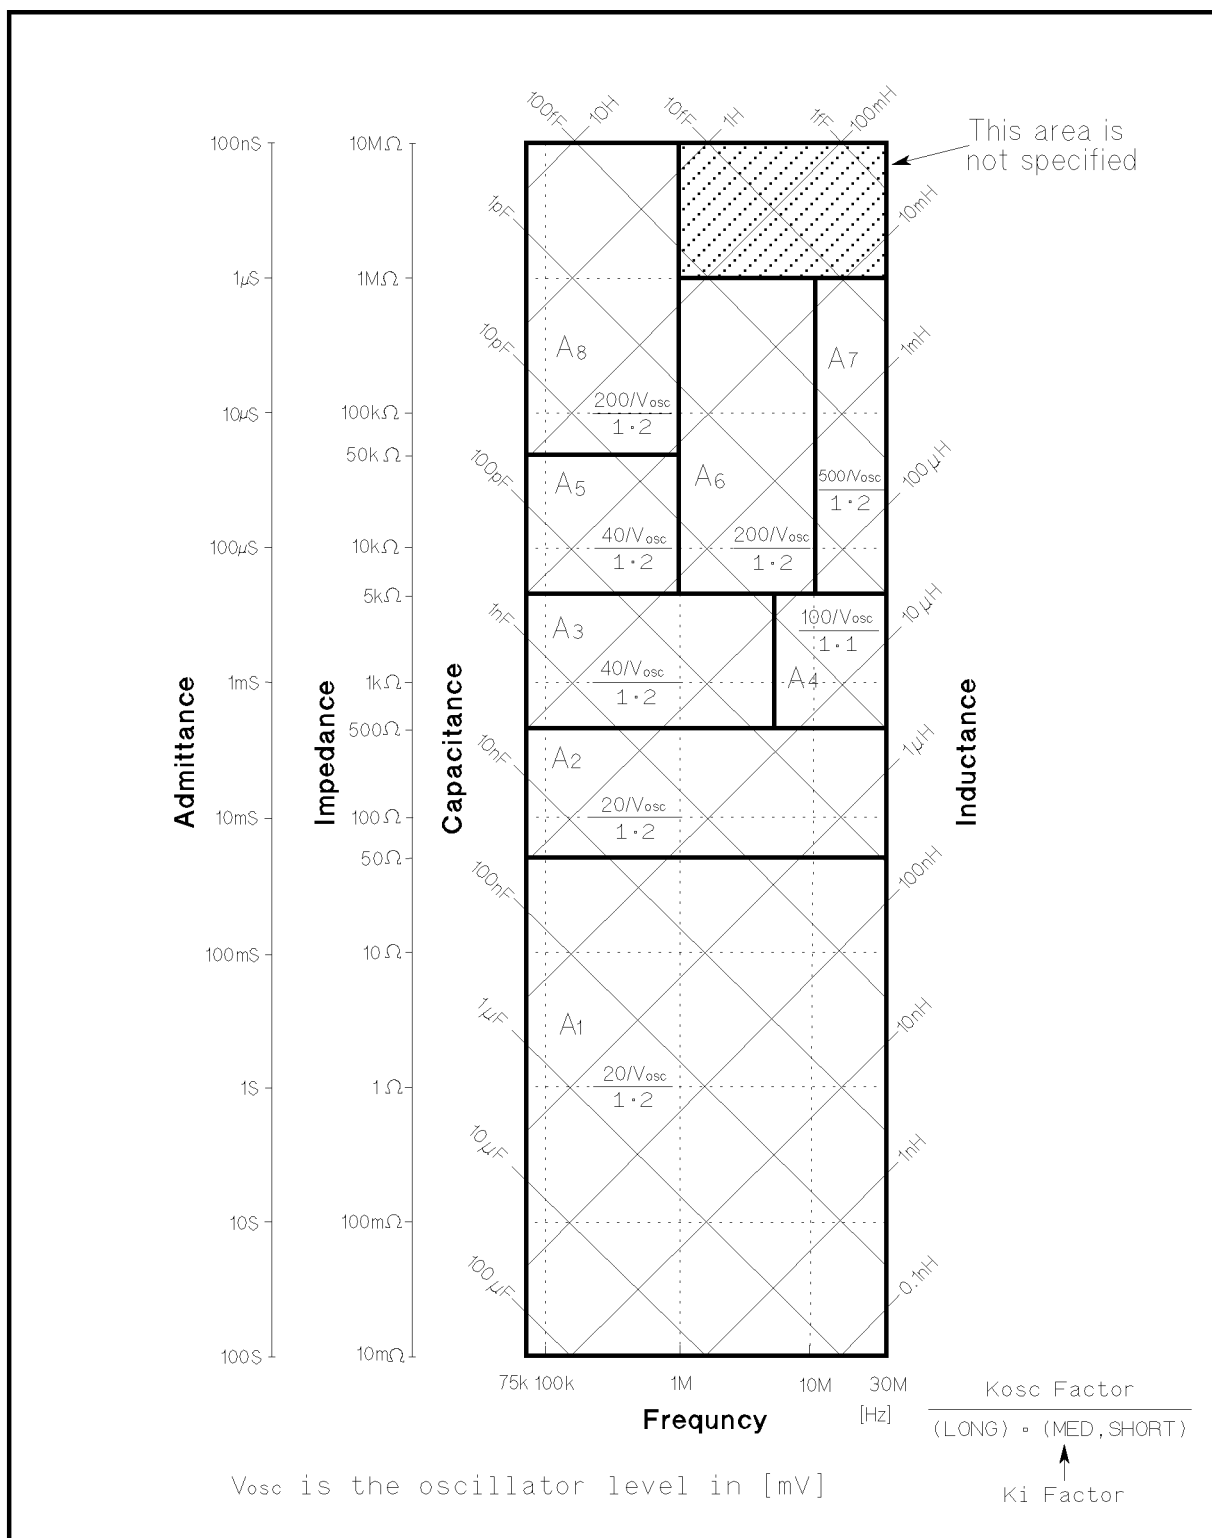
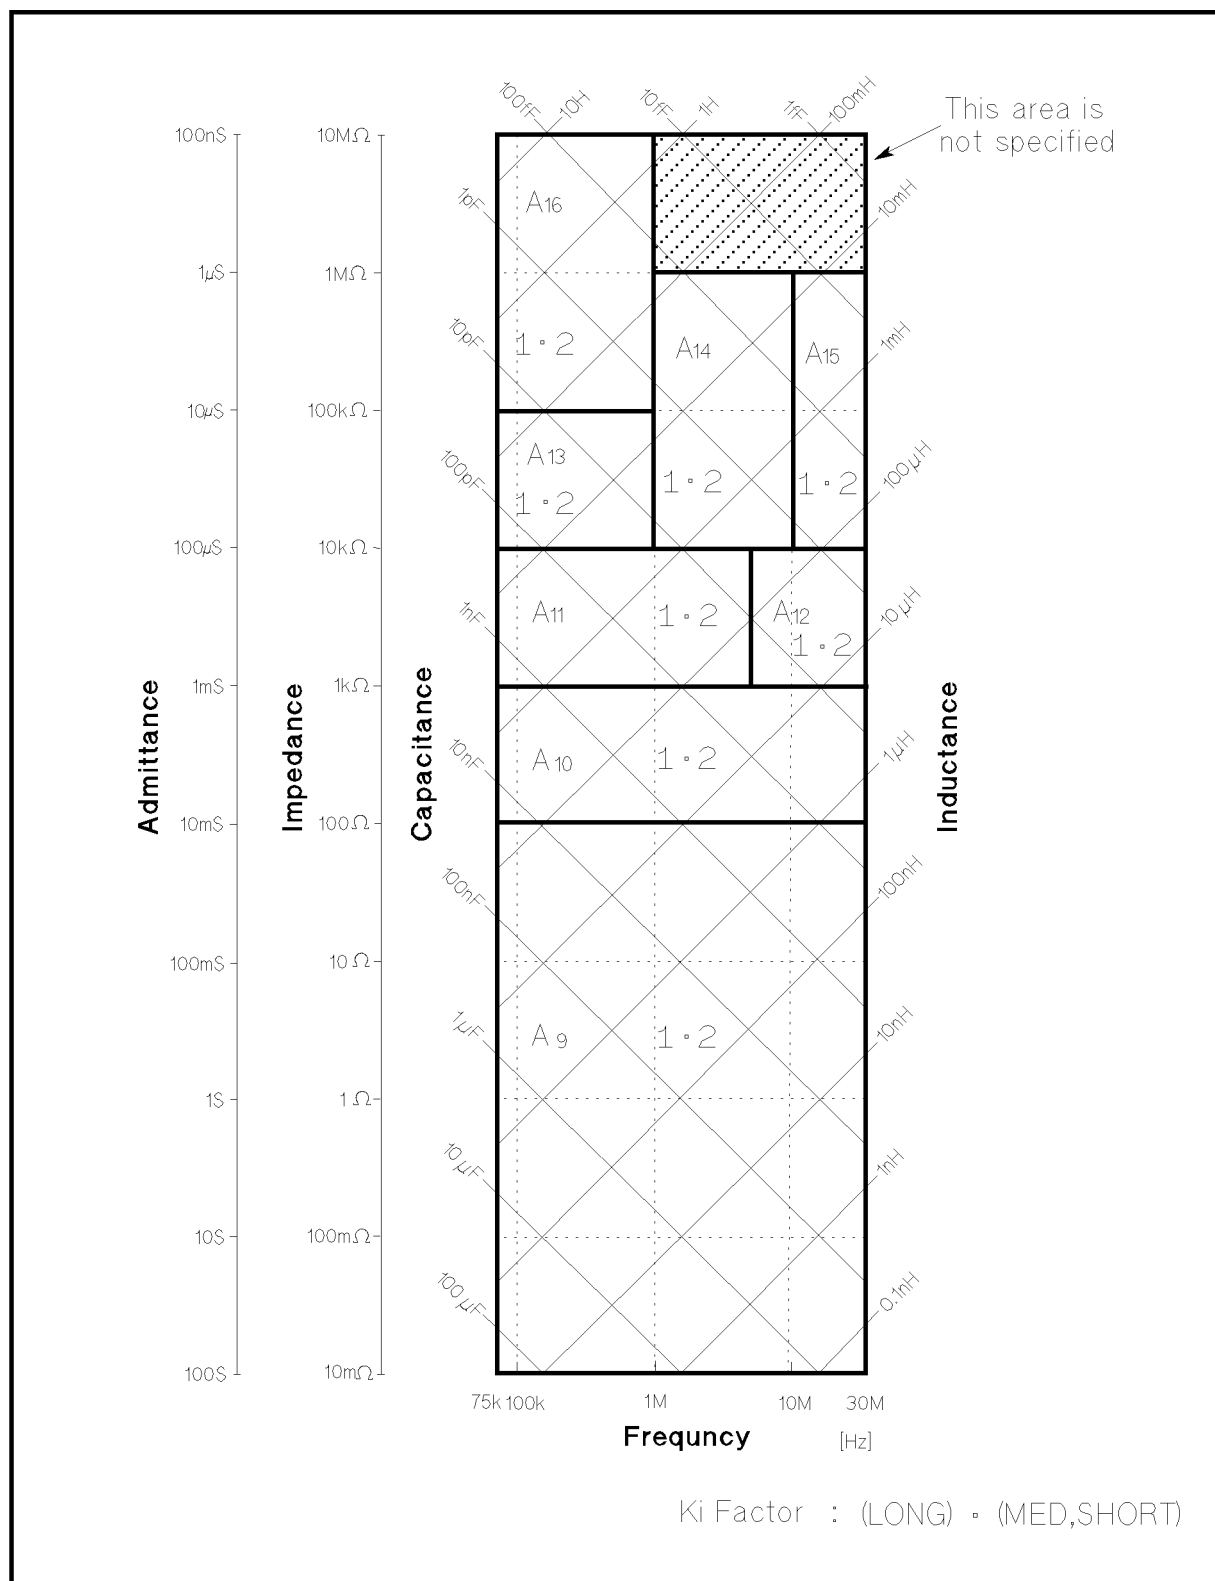

Figure 1-4.
Figure 1-5.
A_n : Basic accuracy equation given from the A_1 to A_{16} shown in Table 1-1. The applicable frequency range and impedance range of equations, A_1 to A_{16} , are shown in Figure 1-4 or Figure 1-5. (Refer to “Basic Accuracy Equations”.)
1. Determine A_n equation from Figure 1-4 or Figure 1-5. In both charts, boundary line belongs to the better accuracy area.
When the oscillator level $\leq 1V_{\text{rms}}$, determine A_n to be applied, value of K_i and value of K_{osc} from the Figure 1-4. If the determined $K_{osc} \leq 1$, then round up K_{osc} to 1.
When the oscillator level $> 1V_{\text{rms}}$, determine A_n to be applied and value of K_i from the Figure 1-5.
3. Choose an accuracy chart from Figure 1-4 and Figure 1-5. The oscillator level is 1 V_{rms}, then Figure 1-4 is chosen for this measurement.
4. Find the frequency point of f_m (25.2 MHz) along the X axis in Figure 1-4. Both axis are in log format. Interpolation may be required.
5. Find the impedance point of Z_m (35 Ω) along the Y axis in Figure 1-4 determined in step 2. Both axis are in log format. Interpolation may be required.